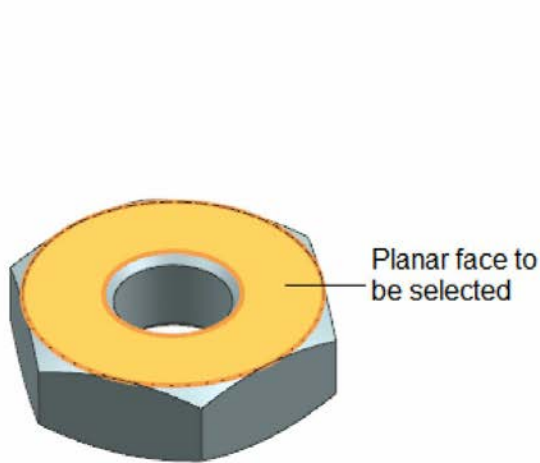
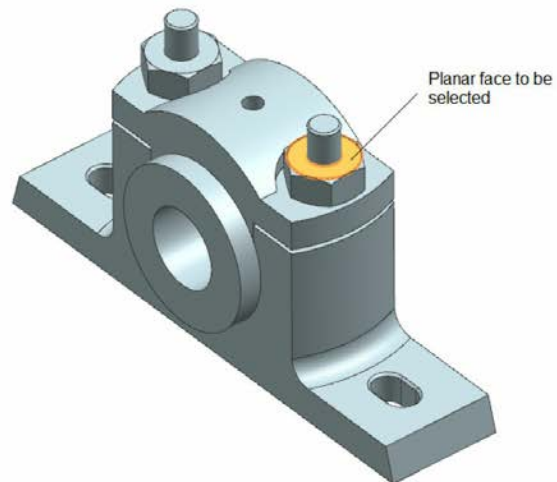

Figure 8-103 Planar face to be selected from the Lock Nut
Figure 8-104 Planar face to be selected from the Nut
5. Select the planar face of the Lock Nut, refer to Figure 8-103. Next, select the planar face of the Nut, refer to Figure 8-104.